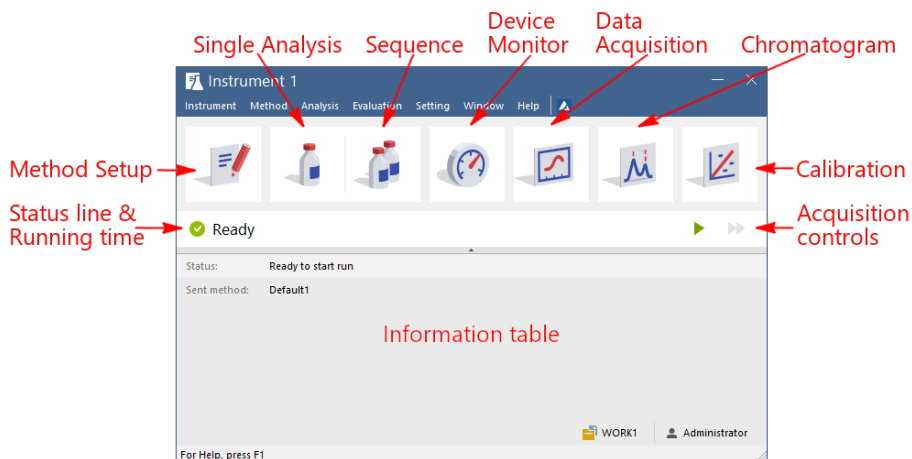

Fig 3: Instrument window
- The **Instrument** window will open; **Fig 3** on pg **10**. shows the most important icons in this window. During the tour, we will present all windows related to these icons.
- Run the analysis by clicking the *Run* button (7). The **Single Analysis** dialog will close now, but if you open it again, you will see three more buttons (*Stop*, *Abort*, *Snapshot*) accessible, allowing you to stop or abort the analysis or take snapshots (see the chapter "**Data Acquisition window**" on pg 13.).
- In the **Instrument** window, look at the *Status line* (see **Fig 3** on pg 10.). The acquisition is now signaled by the *RUNNING* state and the actual run time is displayed there.
- To see the data acquisition in process and possibly control it, use the **Data Acquisition**  icon (see **Fig 3** on pg 10.) to enter the **Data Acquisition** window.
- In the **Data Acquisition** window two signals can be seen. This is because the analysis is set as two-detector ① analysis.